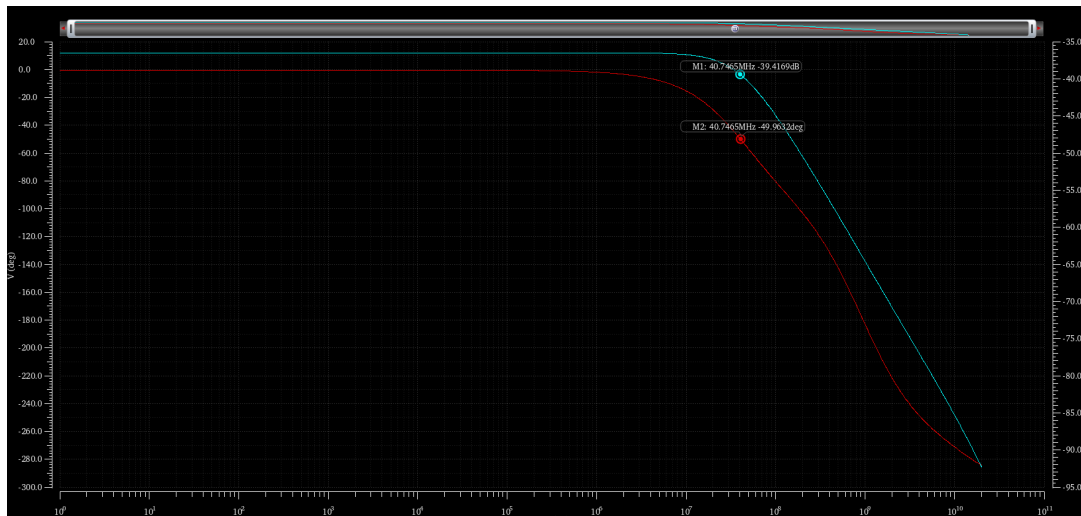

Figure 21: Post-layout AC frequency response
- Phase Margin: 135° (Figure 21)